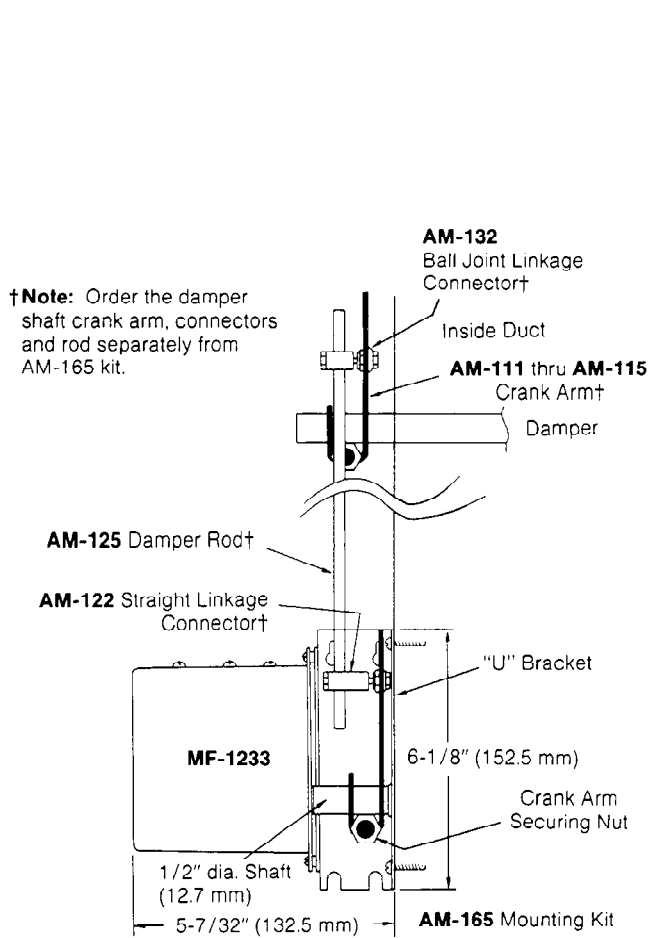

Figure 4. Remote Mounting with AM-165 Kit
Remote Mounting (See Figure 4)
5. Loosen clamp screw on large feedback potentiometer gear (some units will not have clamp screw — proceed to step 6). See Figure 4.